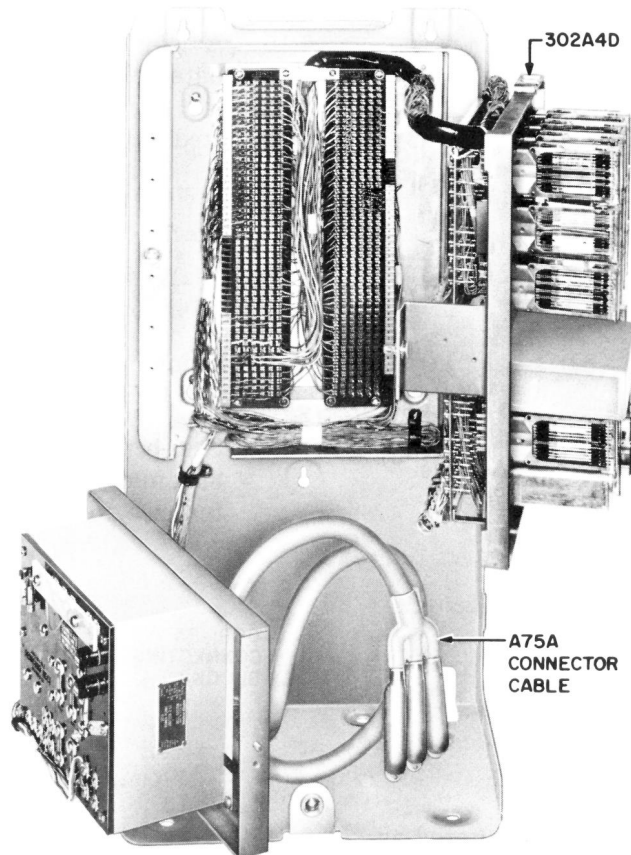

Fig. 3 — 302A4D KSU, Cover Removed
2.14 Fig. 3 shows a 302A4D key service unit in an open position. This shows the length of A75A cable.